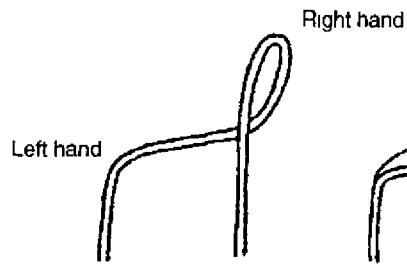

Fig. 3-16-1
- a. Hold the rope with both hands (shoulder distance apart). Using your right hand, twist the hanging portion once inward (into the body) to form a loop. (Fig. 3-16-1)